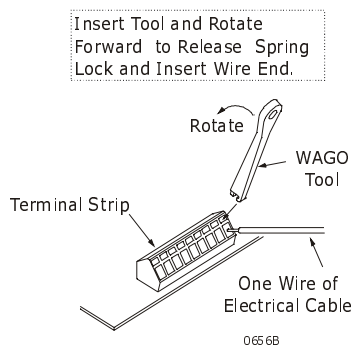

Figure 11: Terminal Connections
- F) A WAGO Tool is taped to the relay on the circuit board in each Actuator. Use this tool to depress the spring lock for the individual wire connection to the terminal strip. (See Figure 11:) Connect the wire colors to the terminal strip as shown on the Drawing in Appendix C.